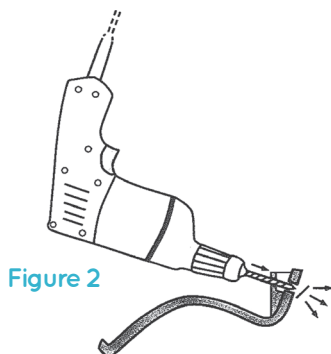
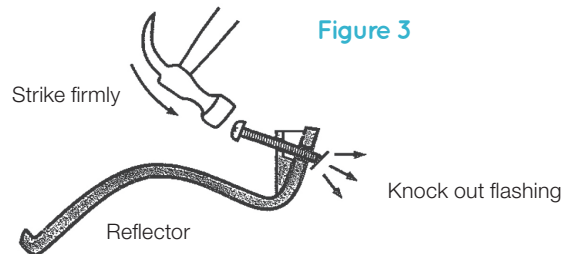

Figure 2
Figure 3
The speaker is prepared for use with the MBS mounting bracket when both are ordered together from the factory. If ordered separately, prepare the speaker as shown in figures 2 or 3, and 4.
- Begin by removing the plastic flashing from the hole in the reflector rim so that the screw can be inserted from the outside. Flashing can be removed with a 1/4" drill bit (figure 2), or it can easily be punched through using a hammer (figure 3). If using a 1/4" drill bit; be careful not to remove any material other than the flashing, or the speaker will not install correctly.